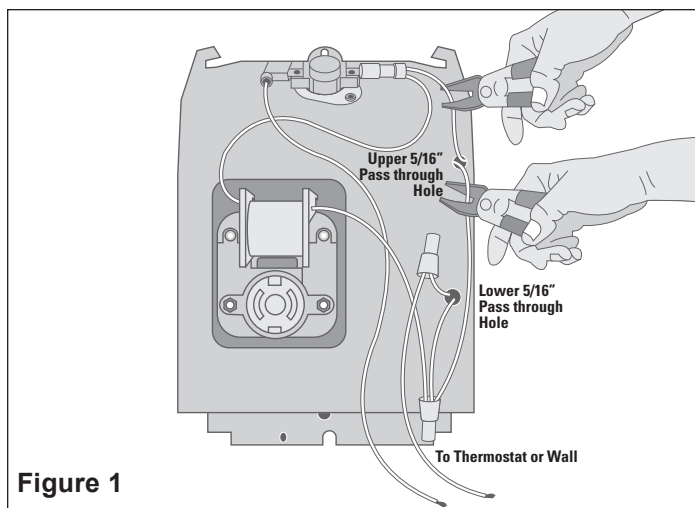

Figure 1
- C. Cut both wires one inch above upper pass through. (See Figure 1)
- A. Attach new element wires to lead wires using wire connectors. (See Figure 1)